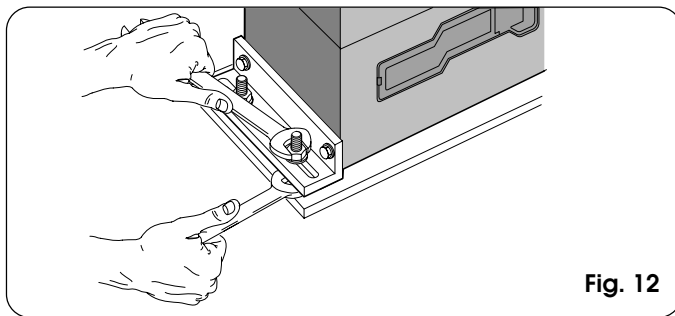

Fig. 12
- 5) Secure the gearmotor to the foundation plate, tightening the nuts as in Fig.12.